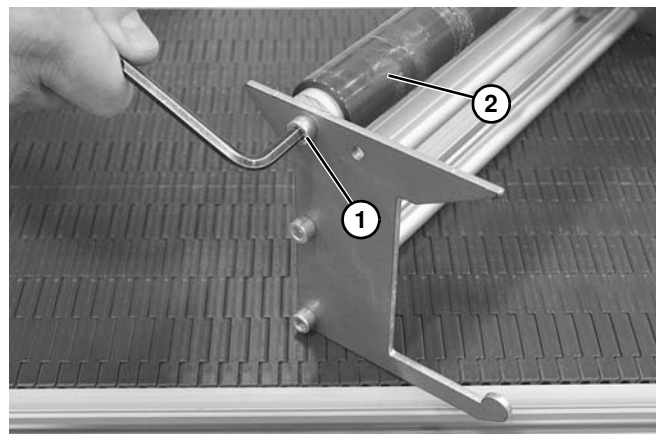

Figure 54
3. Remove screw (**Figure 54, item 1**) on both sides of bracket and remove takeup roller (**Figure 54, item 2**).